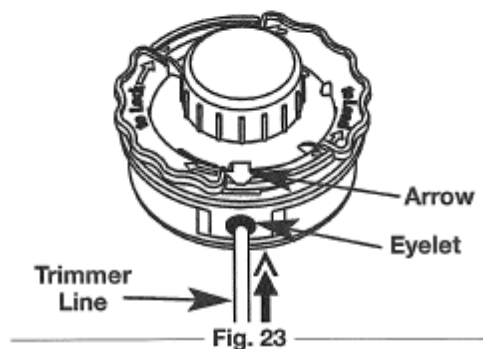

Fig. 23
1. Align the arrows on the SpeedLock™ with the eyelets on the outer spool (Fig. 23).
2. Insert a piece of precut spiral line, **P/N 49UFSHLL953**, into an eyelet on the outer spool (Fig. 23).
1. While holding the outer spool in place, pull the SpeedLock™ away from the outer spool and twist the SpeedLock™ counterclockwise until it stops. The arrows should align with the eyelets on the outer spool. (Fig. 23)